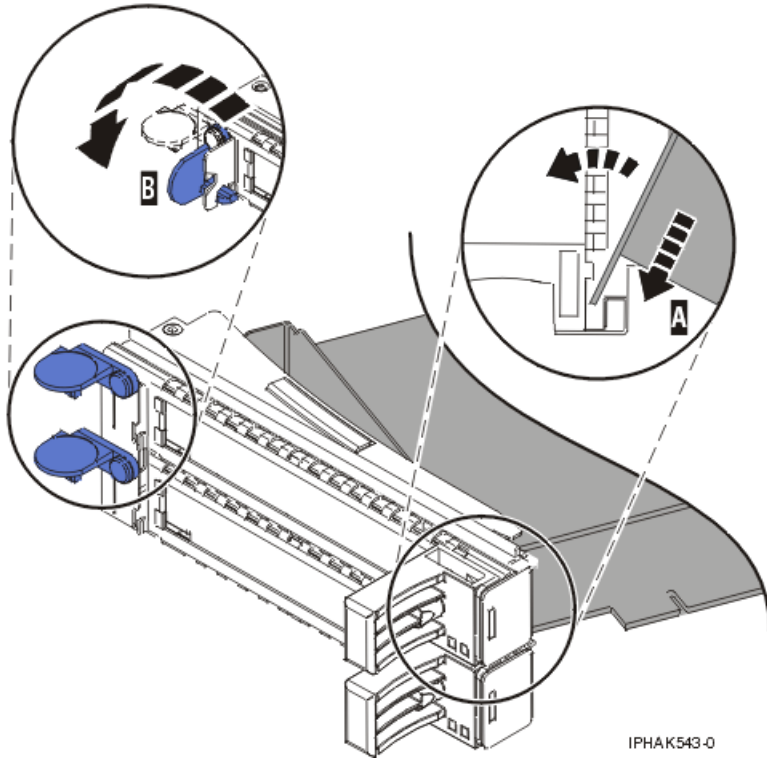
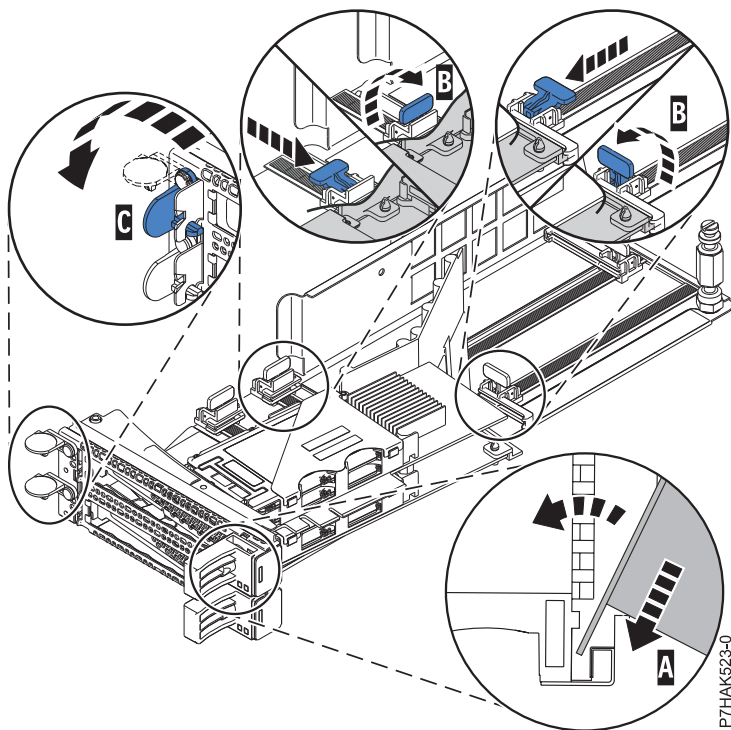

Figure 52. Adapter replaced in the PCI adapter cassette
Figure 53. Replacing a PCIe RAID and SSD SAS adapter into the PCI adapter cassette
- a. With the tailstock clamp in the open position, insert the adapter firmly into the tailstock retaining channel (A). For a typical PCI adapter, see Figure 52 on page 63. For a PCIe RAID and SSD SAS adapter, see Figure 53 on page 63.
- c. Close the tailstock clamp (C).